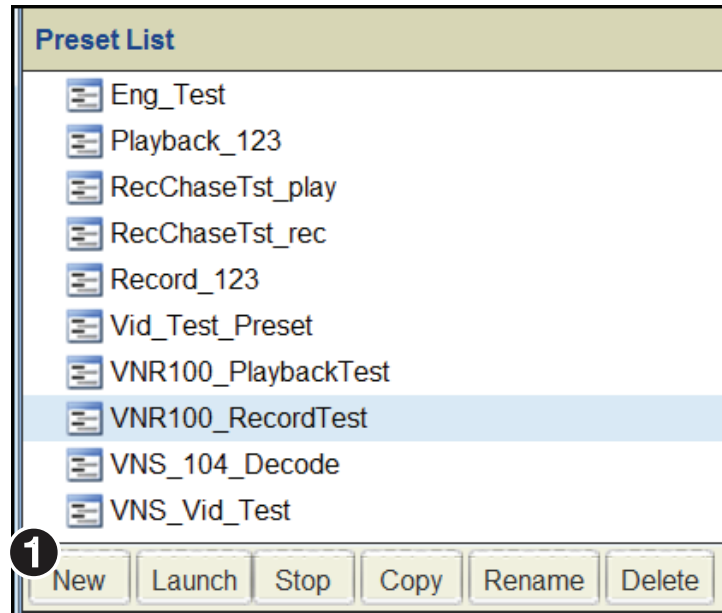

Figure 99. Presets, Using the VNS 104
1. Select **New** at the base of the **Preset List** panel to create a blank preset (see figure 99, ❶).